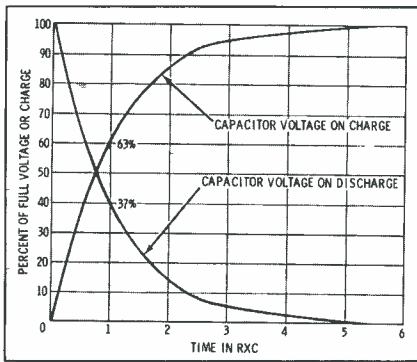

Fig. 2. Graph shows charge and discharge percentage vs time constant.
across R. S is then switched to contact 2; as the graph shows, current instantly increases to maximum value and is limited only by resistance R. As Fig. 2 shows, in one time constant (TC)—which is equal to resistance, in ohms, multiplied by capacitance, in farads—C will charge to 63.2% of voltage E_b . Consequently the voltage across R will decrease from E_b (at $1TC$) to 36.8% of E_b . E_c will increase and E_r will decrease until, at 5 TC, E_c will for all practical purposes equal E_b .